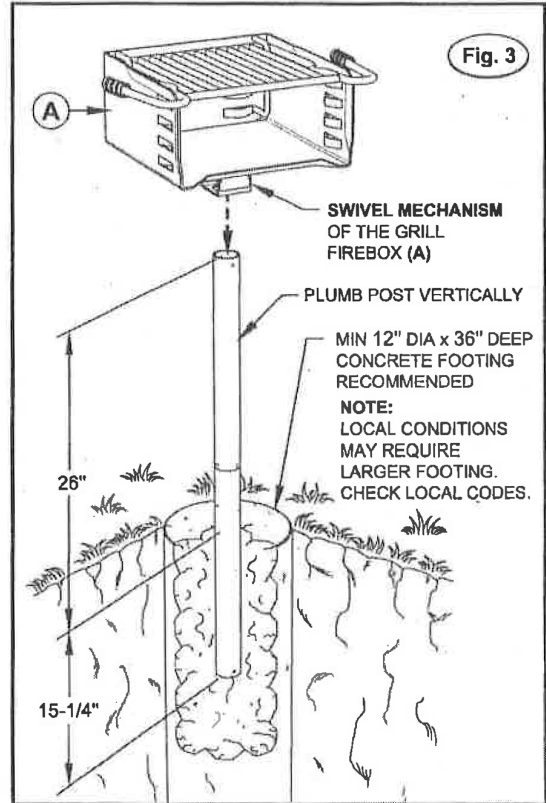

Fig. 3
- Use a post hole digger to make a hole a minimum of 12" in diameter x 36" deep. Fill the hole with concrete (see Fig. 3).
- Place one end of the assembled Post Base into the concrete with the top end 26" above ground level and plumb it vertically (see Fig. 3). Allow the concrete to cure before installing the Grill on the Base.
- Install the Grill (A) on the Post Base by placing the 2-3/8" Holes in the Swivel Mechanism of the Grill Firebox over the end of the Post (see Fig. 3).